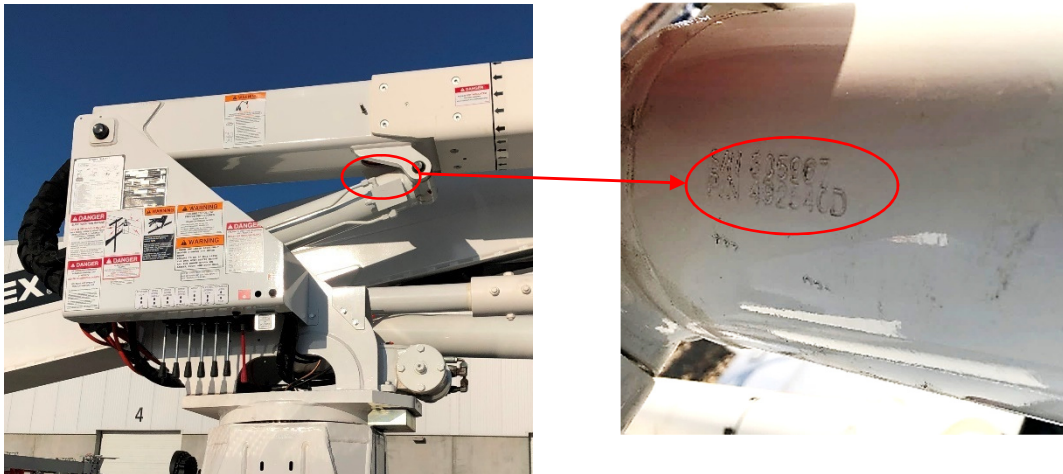

Figure 1. Cylinder Part Number and Revision Stamp Location
2. Inspect to determine if the lower boom cylinder is marked with the latest revision per the above table, for example 492540 Rev D. If the cylinder revision matches the above table, the rest of the Field Service Kit (basket and boom rest adjustments, decals, flow control adjustment, basket rest paint stripe) still applies. Reference Figure 1 for the location of the part number stamp.